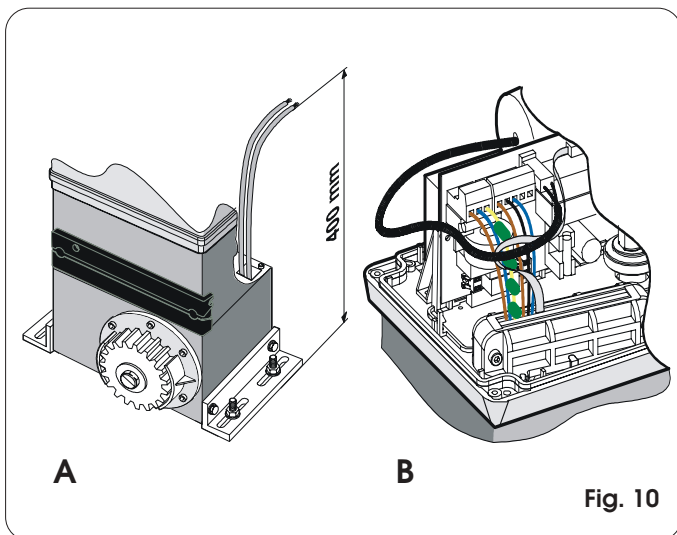

Fig. 10
- During this operation, route the cables through the duct inside the lower half-casing of the operator (Fig. 10 - Ref. A). To access the electronic equipment, route the cables through the appropriate hole, using the supplied rubber cable-clamp. Make absolutely sure to unsheath all the cables so that the clamp holds single cables only (Fig. 10 - Ref. B).